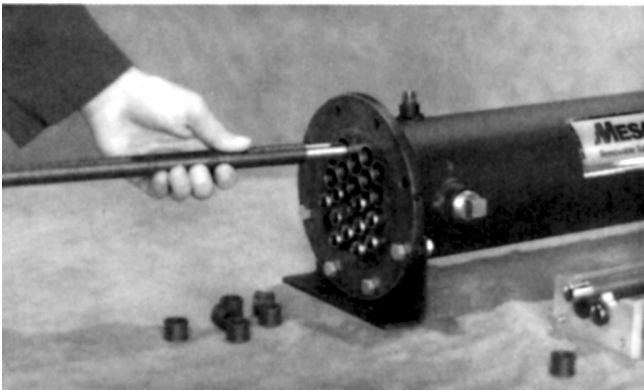

Figure 4
1. Wipe out the long (L) end header plate holes with a small amount of cleaning solvent and inspect each for damage.
4. By hand, push the long end of each tube through the short (S) end header plate until the tube just contacts the long end seal. Repeat for each tube (see Fig. 4).